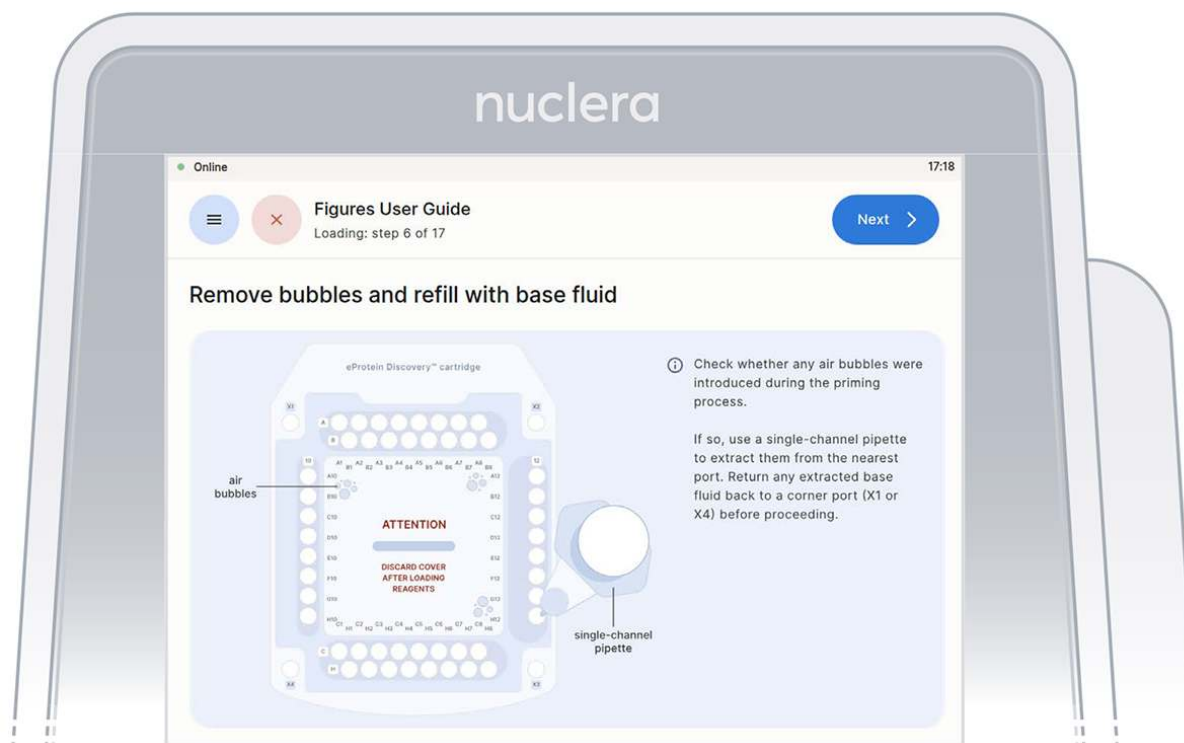

Figure 15: Connection of the pump tubes to the cartridge
3. After the base fluid has loaded, inspect the cartridge for air bubbles that may have been introduced during the priming with base fluid. If any air bubbles persist after base fluid priming, use a single-channel p200 pipette to aspirate the air bubbles from the nearest port and slowly reinject the base fluid that was aspirated into a corner port (X1 or X4). Press the [Next] button (Figure 15).